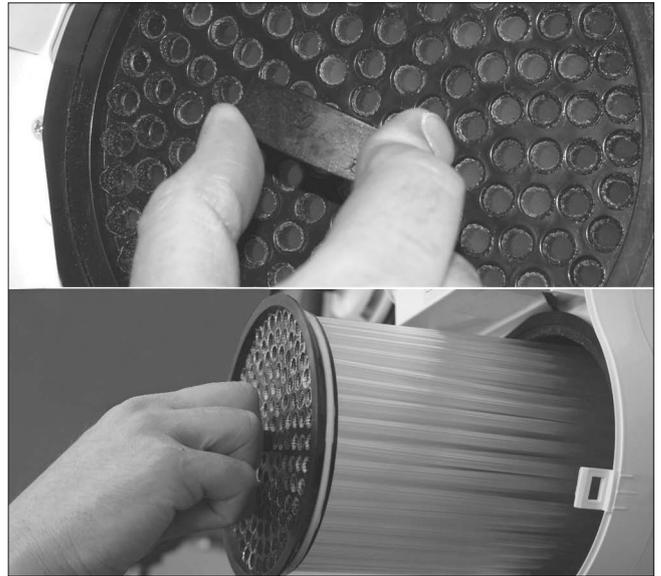

Fig.21B
- Remove the heat cell by holding the cell key to pull it out. When removing, handle the heat cell carefully and do not squeeze the tubes (Fig.21B).